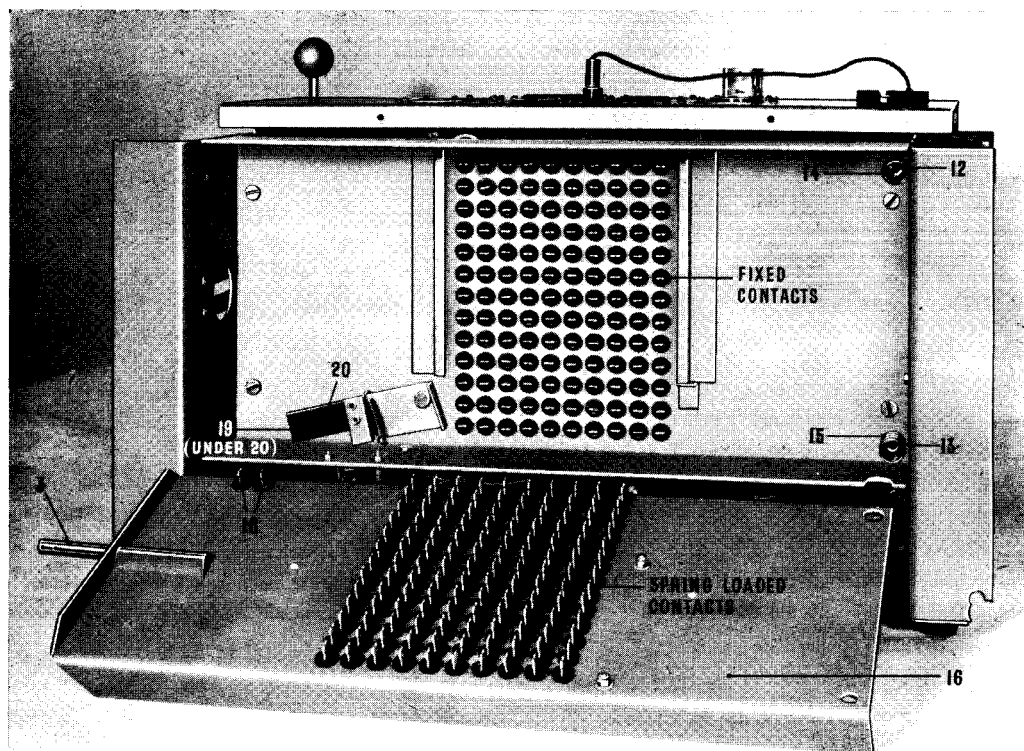

FIG. 7.—GATE SWITCH DISMANTLED SHOWING CONTACTS AND SAFETY DEVICE.
The gate switch consists of 130 pairs of contacts, each pair comprising a fixed contact and a movable contact, arranged in thirteen rows of ten pairs (Fig. 7). The 130 movable contacts are individually spring loaded and are mounted on a plate which is hinged so that it may be moved bodily in relation to the fixed contacts.
A single pole switch consisting of two sets of contacts (18 and 19) (Fig. 7) on each half of the gate forms the mains on/off switch. A pivoted shutter (20) is interposed between each set of contacts so that, should the gate switch lever be depressed without a card being in position, power will not be applied to the circuit. Only the correct insertion of the card will move the shutter clear and allow the contacts to make when the gate is closed.
To dismantle the gate switch, remove the split pin holding the link bar (4) to the gate pin (3). The hinge bar (9) (Fig. 10) can now be removed by unscrewing the two  $1\frac{1}{2}$ -inch 4BA bolts (10) and (11) which pass through the two pillars (12) and (13) (Fig. 7). These bolts are secured by two nuts inside the chassis. Two springs (14) and (15) are interposed between the two halves of the gate switch and care should be taken when unscrewing the bolts that the moving half of the switch (16) does not spring outwards and damage the contacts. The moving half of the switch is now free and can be removed by disengaging the gate pin from the guide plates and the "C" spring. To assemble the gate switch insert the gate pin between the